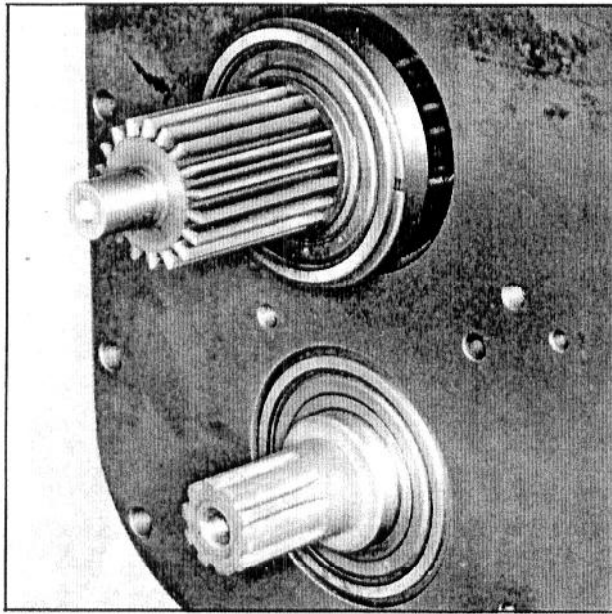

Fig. 57 — Removing the Main Shaft
- g. The main shaft by pulling it from the rear of the transmission, as shown in Fig. 57.